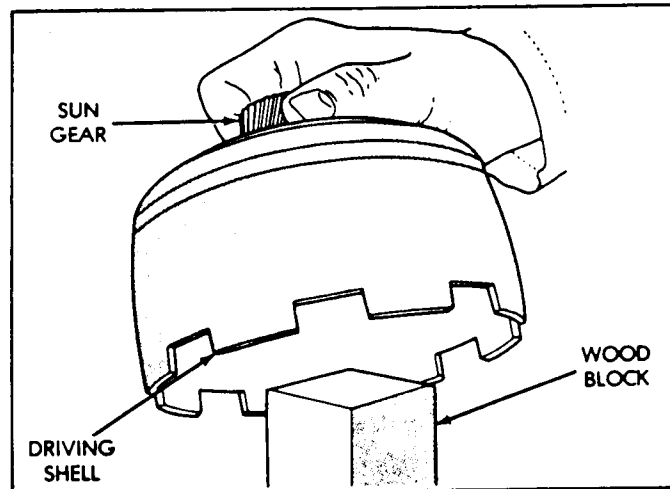

Figure 79
11. Position wood block on bench, as shown in Figure 79, and support sun gear on the wood block. This makes it easier to install sun gear locking ring.